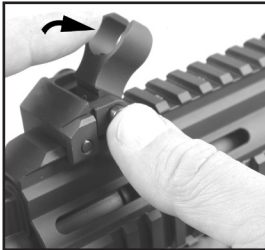

Fig. 8 – Folding (lowering)
2. Apply one drop of thread locking compound to the exposed threads of the clamping screw. Replace the clamping plate and tighten the clamping screw while pushing sight forward against the cross-slot (Fig. 7). To raise the sight, grasp and pull up until the sights locks in the upright position. To fold the sight, depress the button on the left side of the base and fold down. (Fig. 8)